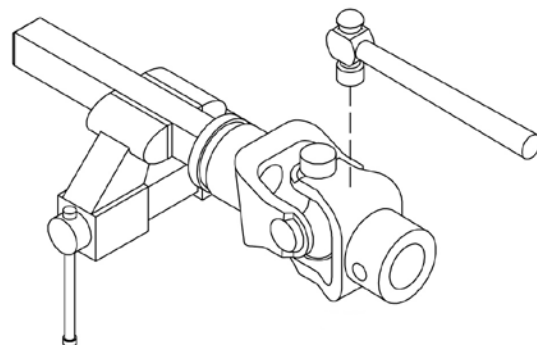

Figure 20. Remove Cups
2. With snap rings removed, support drive in vise, hold yoke in hand and tap on yoke to drive cup up out of yoke. See Figure 20.